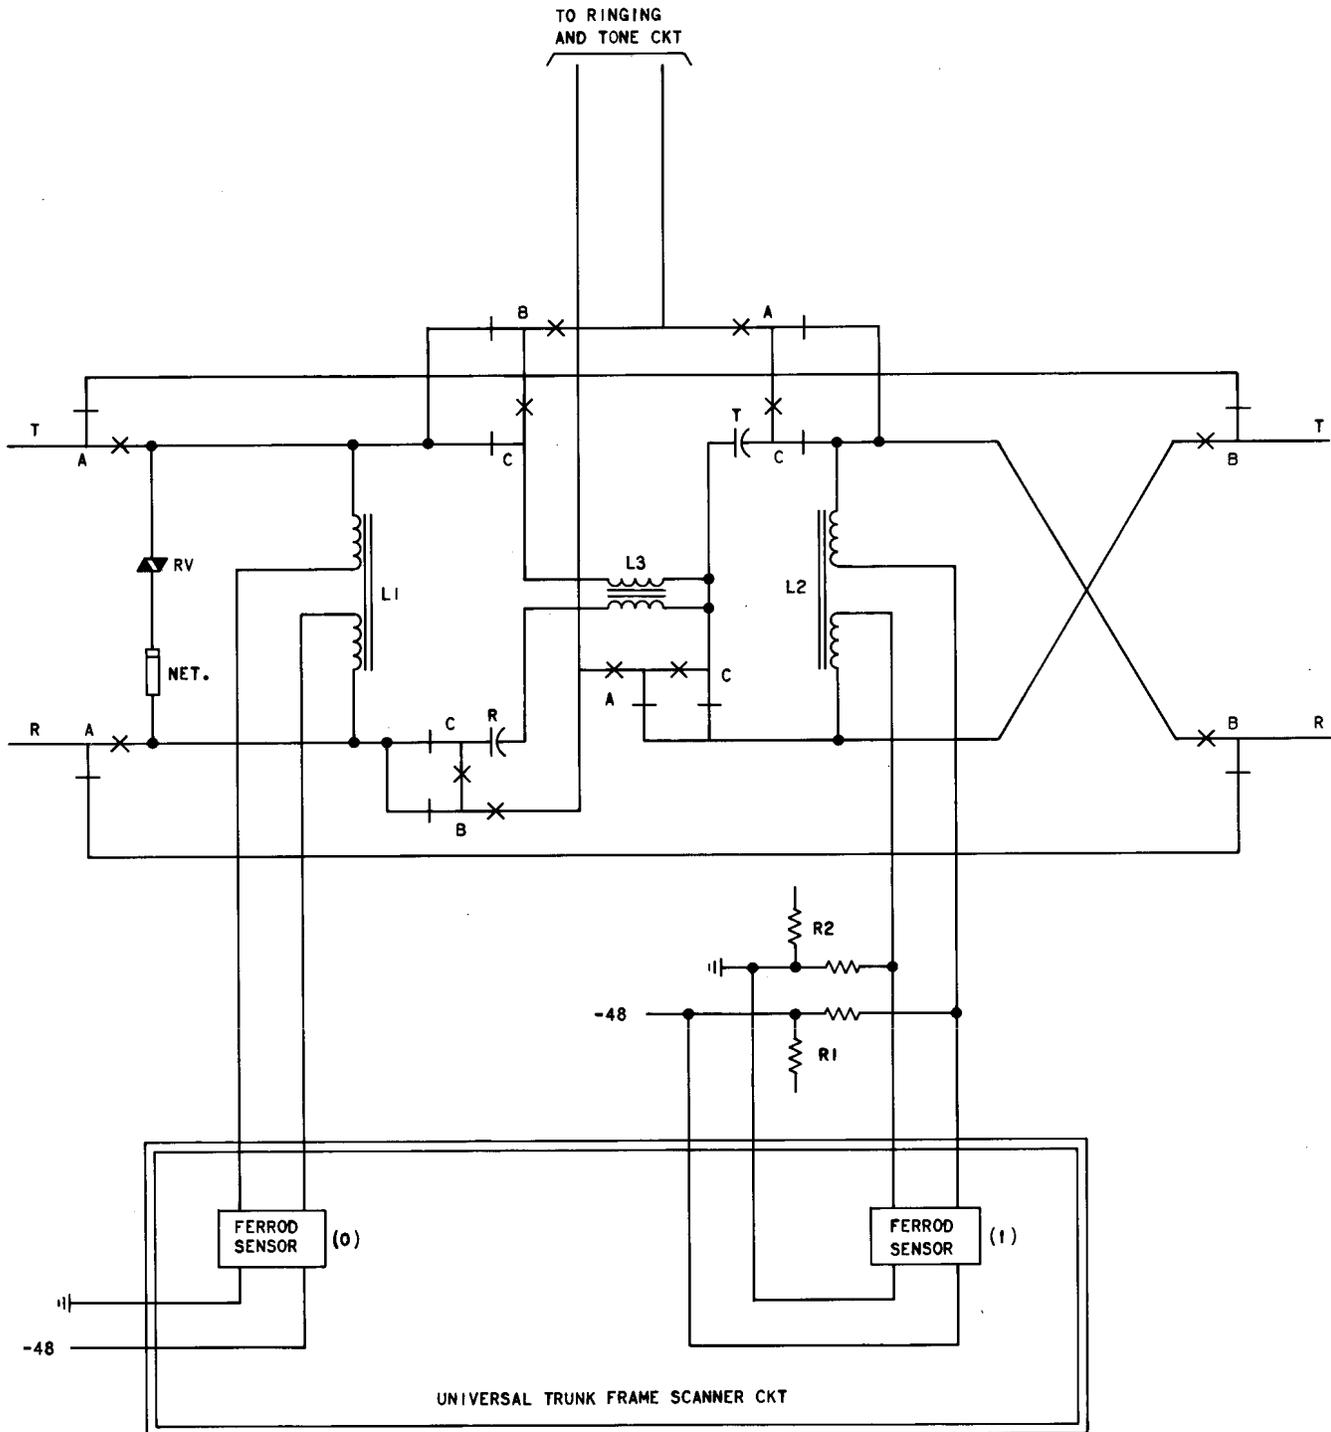

Fig. 2—Junctor Circuit (SD-2H102)
- (1) Discontinue the test.
- (2) Troubleshoot the circuit which failed. See Fig. 2.
- (3) Replace faulty circuit components using standard repair procedures.
- (4) Repeat the test that failed. If verification is successful, continue the test.